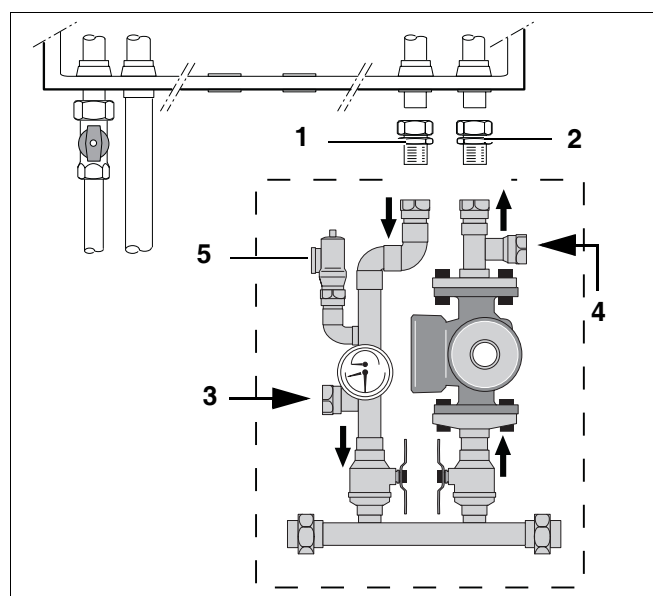
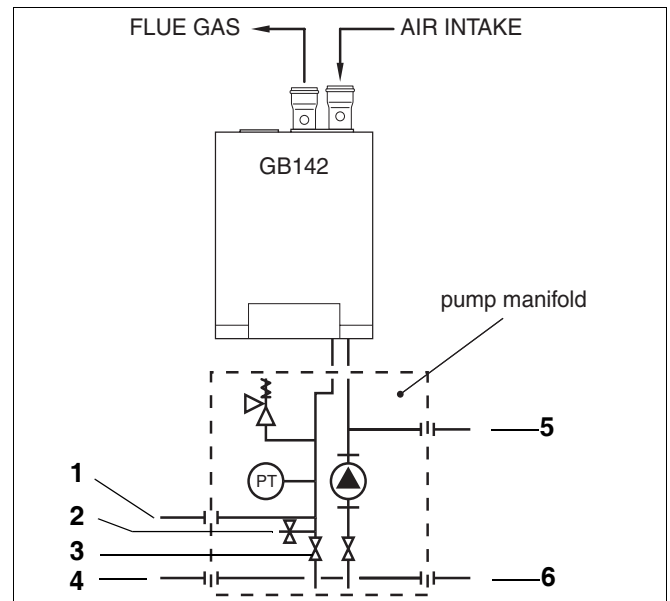

Fig. 9 Pump manifold installation
Fig. 10 Schematic representation of the boiler with the hydronic set
- Fit the compression fittings (fig. 9, pos. 1 and 2) first to the Hydronic set (see fig. 10, 11 and 12) and then to the boiler.
Fig. 10 is a schematic representation of fig. 9.
- Install the relief valve according fig. 10.